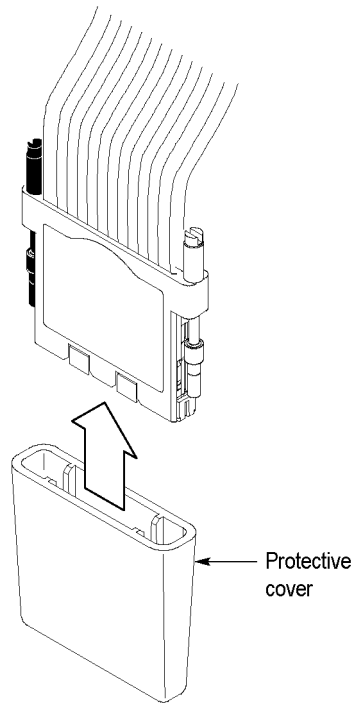

Figure 8: Protecting the probe head
- Always store the probe head in the protective cover when not in use. (See Figure 8 on page 12.)
To protect the interface clip, it is important to properly store the probe head when the probe is not in use. (See Figure 8.)